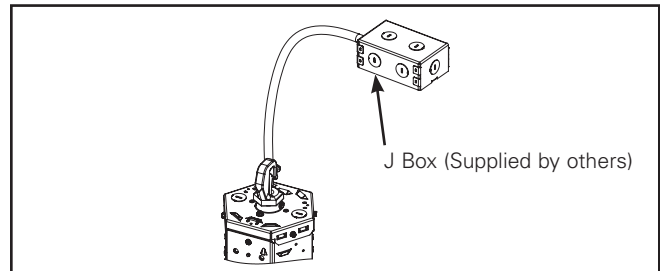

Figure 9.
3. J Box ( Supplied by others) (Figure 9).